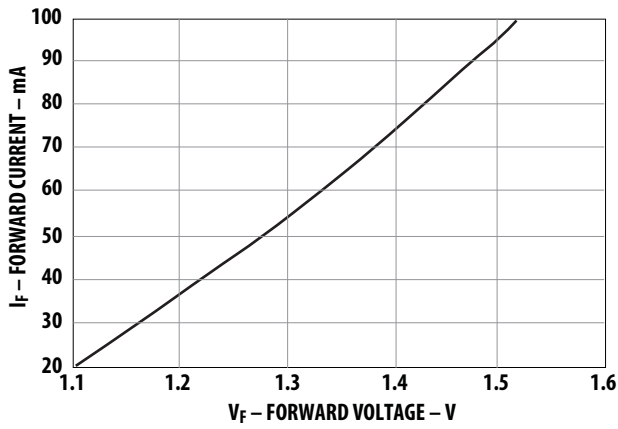

Figure 3. Typical forward voltage and current characteristics.
| Forward Voltage                         | $V_F$                 | 1.1  | 1.4                 | 1.7  | V     | $I_F = 75 \text{ mA}$                  | Fig. 3 |
7. Optical rise and fall times are measured from 10% to 90% with 62.5/125  $\mu\text{m}$  fiber. LED response time with recommended test circuit (Figure 3) at 25 MHz, 50% duty cycle.